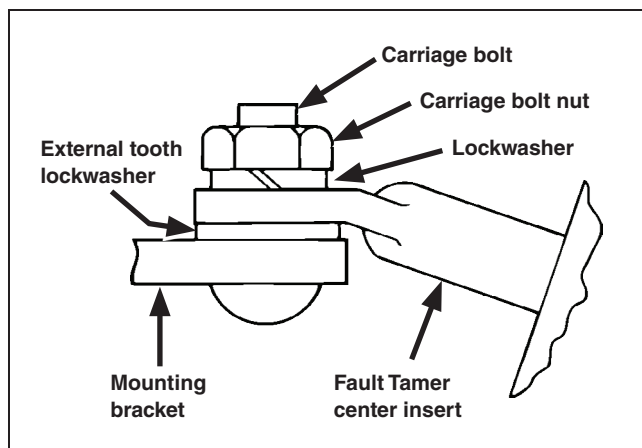

Figure 1. Detail of attachment of the Fault Tamer Fuse Limiter mounting to the mounting bracket.
- STEP 1.** Attach the Fault Tamer Fuse Limiter mounting to a suitable mounting bracket, as illustrated in Figure 1.